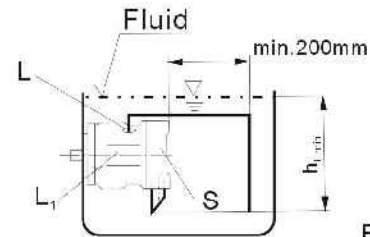

Fig.3
a) If the minimum fluid level is above the top of the pump, port "L" closed, "L1" and "S" should remain open, L piped and recommendation S piped (see Fig.3)